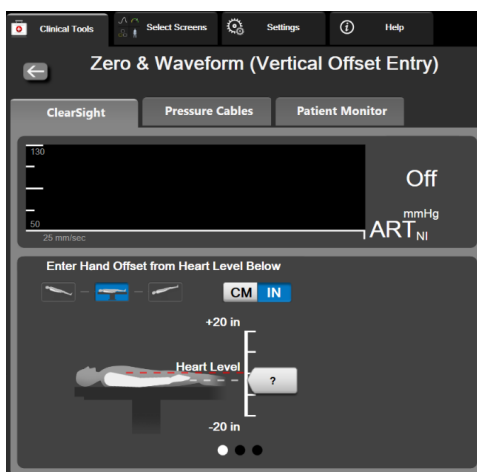

Figure 11-6 Zero & Waveform screen – Vertical Offset Entry
- 4 The **Zero & Waveform** screen in this mode (shown in figure 11-6) will depict three patient positions: